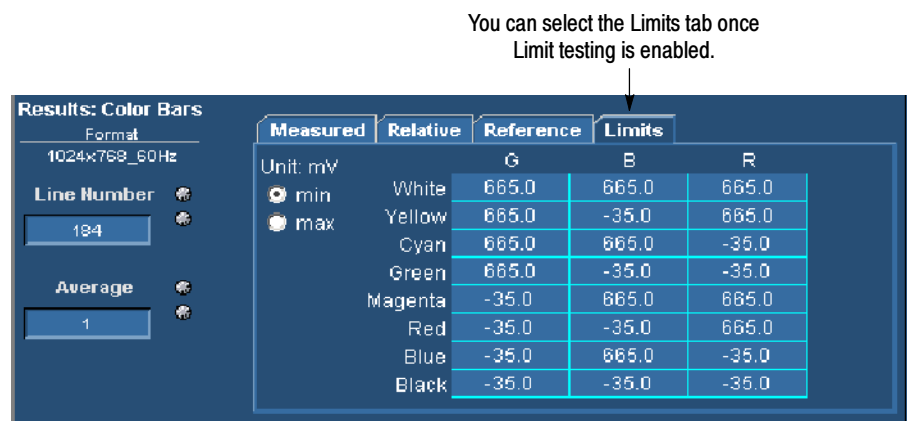

Figure 3-16: Results when limit testing is available
8. View the measurement results by selecting the corresponding menu item in the results panel of the measurement. See Figure 3-16.